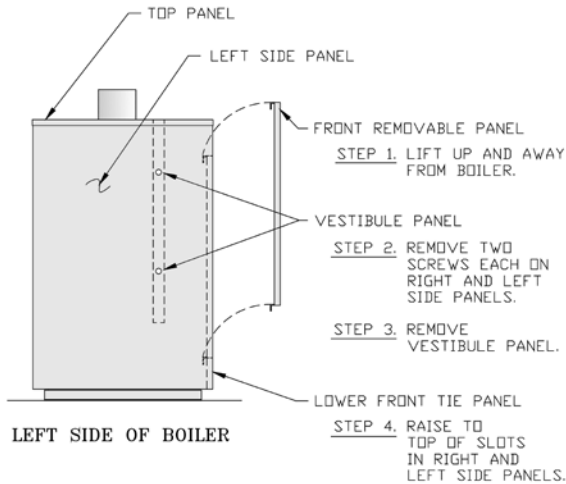

Figure 18: Jacket Front Panel and Vestibule Panel Removal
G. Inspect Boiler Flue Passages for blockage or soot accumulation. See Figures 18 and 19.